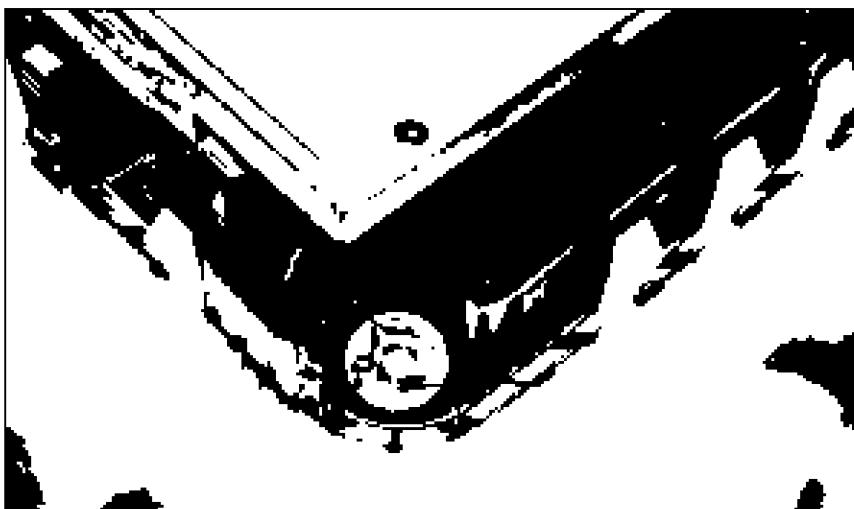

Figure 5-8:
3. Remove the screw in the right-front corner of the Mac mini, as shown in Figure 5-8.